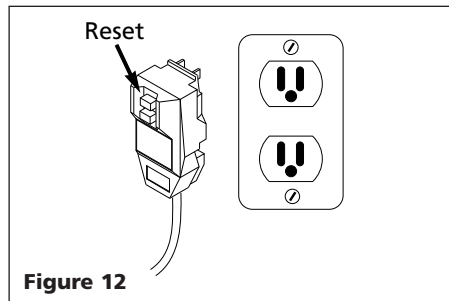

Figure 12
5. Plug the power cord into a grounded outlet and press the reset button on the GFCI as shown in Figure 12. THIS MUST BE DONE EACH TIME THE UNIT IS PLUGGED INTO AN OUTLET.